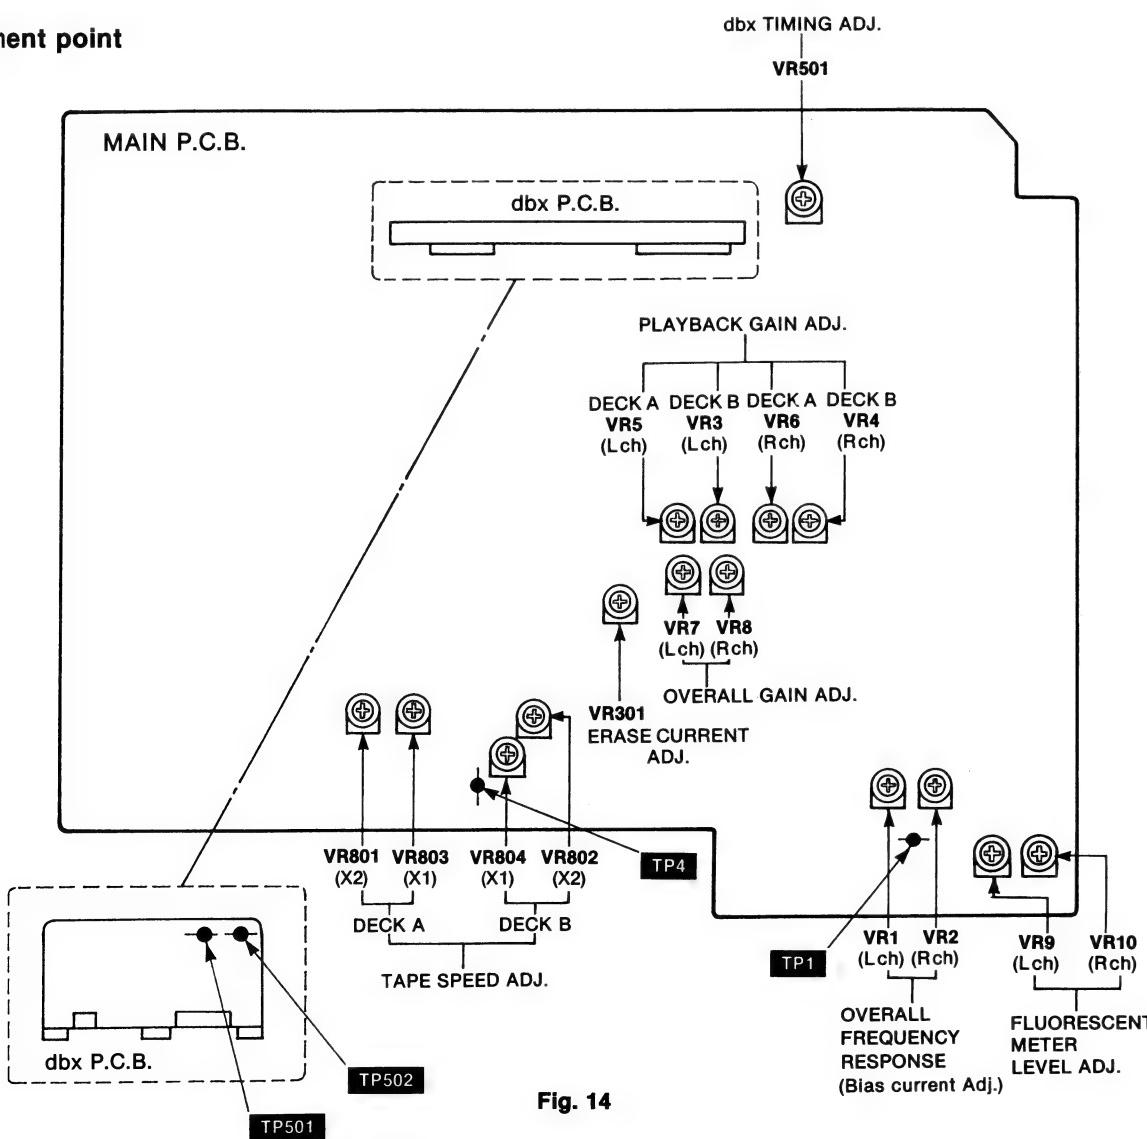

Fig. 14
- Adjust Deck B=VR802 and Deck A=VR801 (see Fig. 14) so that the output is within the standard value.
- Adjust Deck B=VR804 and Deck A=VR803 (see Fig. 14) so that the output is within the standard value.